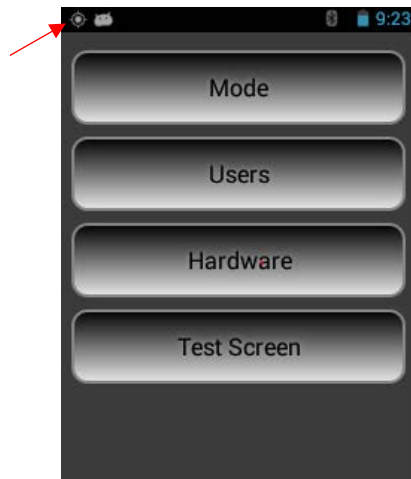

Figure 45
d) This icon in Figure 45 below will appear, indicating that GPS is enabled.